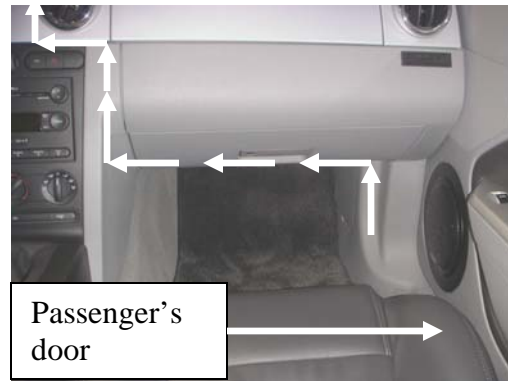

Figure 5
2. Route the harness as shown in FIGURE 4 ensuring that the harness is on the outside of the metal radio bracket. (FIGURE 5 is an overview)
3. Route the end of the harness with the zip-tie leads up and through the two 1" holes in the dashboard. Feed the wire with the wider, flatter connector and the green wire through the *driver's side* 1-inch wide hole. Feed the more square connector through the *passenger's side* 1-inch wide hole. (FIGURES 5,6)